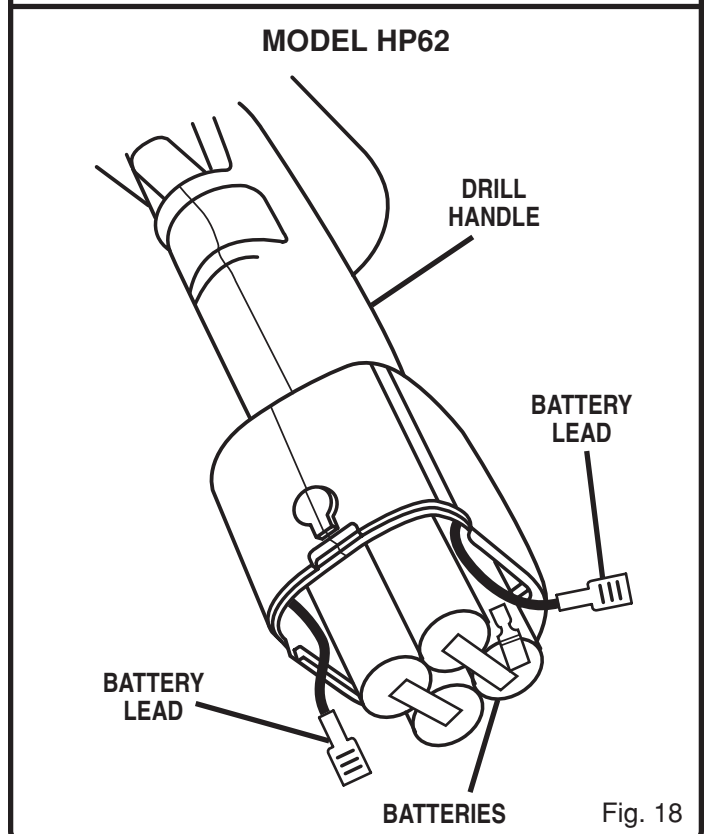

Fig. 18
- Slide battery assembly from drill handle enough to expose leads and battery terminals. See Figure 18. Disconnect leads from battery terminals.